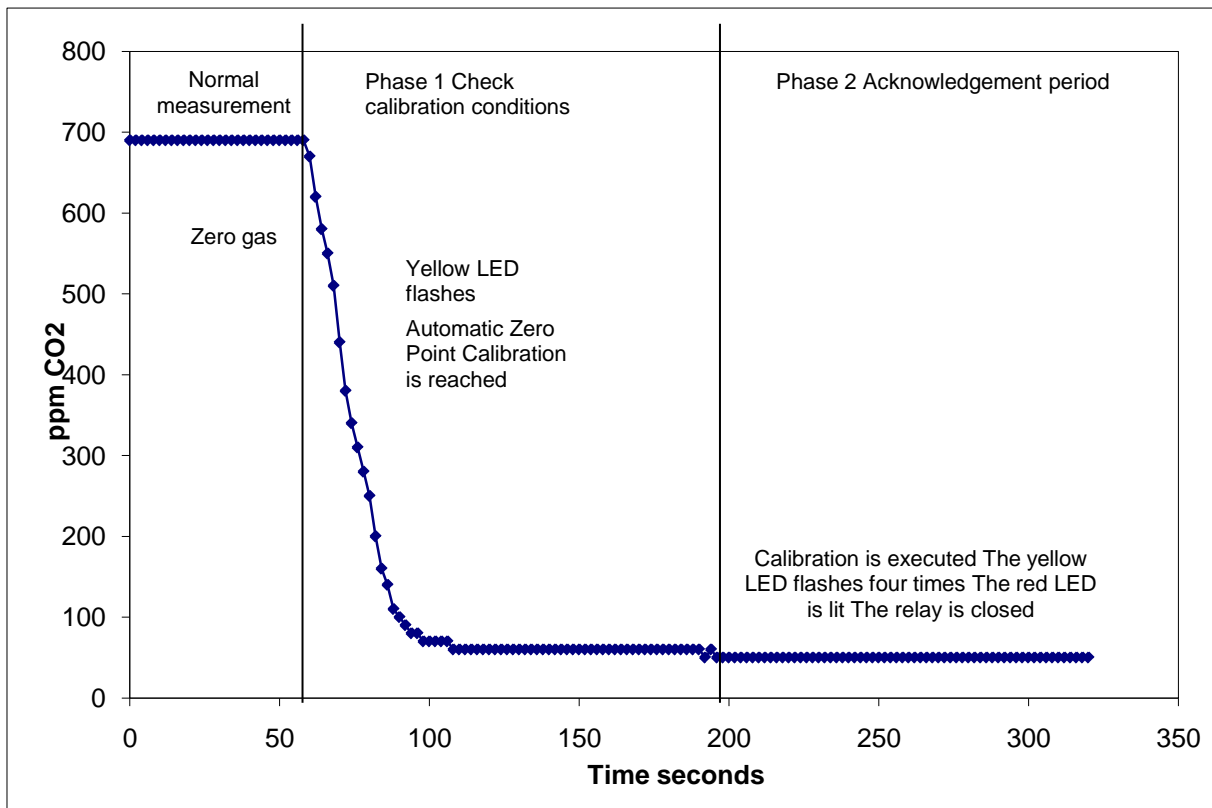

Figure 2. An example of Automatic Zero Point Calibration
2. Connect the zero gas to the nipple. The sensor automatically enters phase 1 of the calibration procedure when the CO₂ concentration drops sharply. See figure 2. Do not remove the zero gas during calibration.